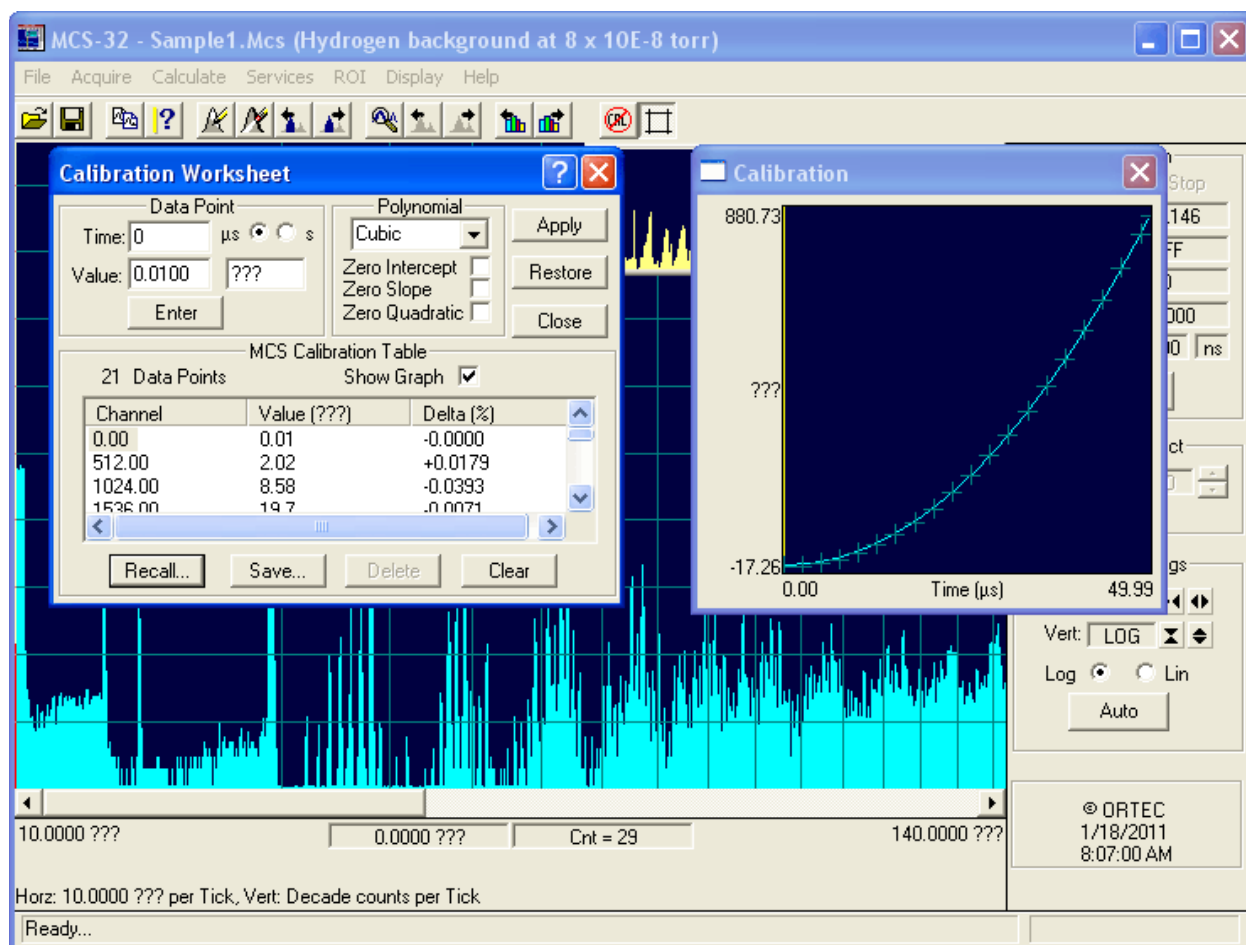

Fig. 51. The Calibration Worksheet and Graph.
1. Select **Calibration...** This will open the **Calibration Worksheet** dialog shown in Fig. 51. This dialog provides a place for entering up to 64 time or channel values, and the calibration values that correspond to the times or channels. By default, time values are entered when the dwell is internal. For external dwell, you must enter channel numbers. The Marker Information Line is updated to display the marker position and display limits in the selected time units when the calibration dialog is displayed.